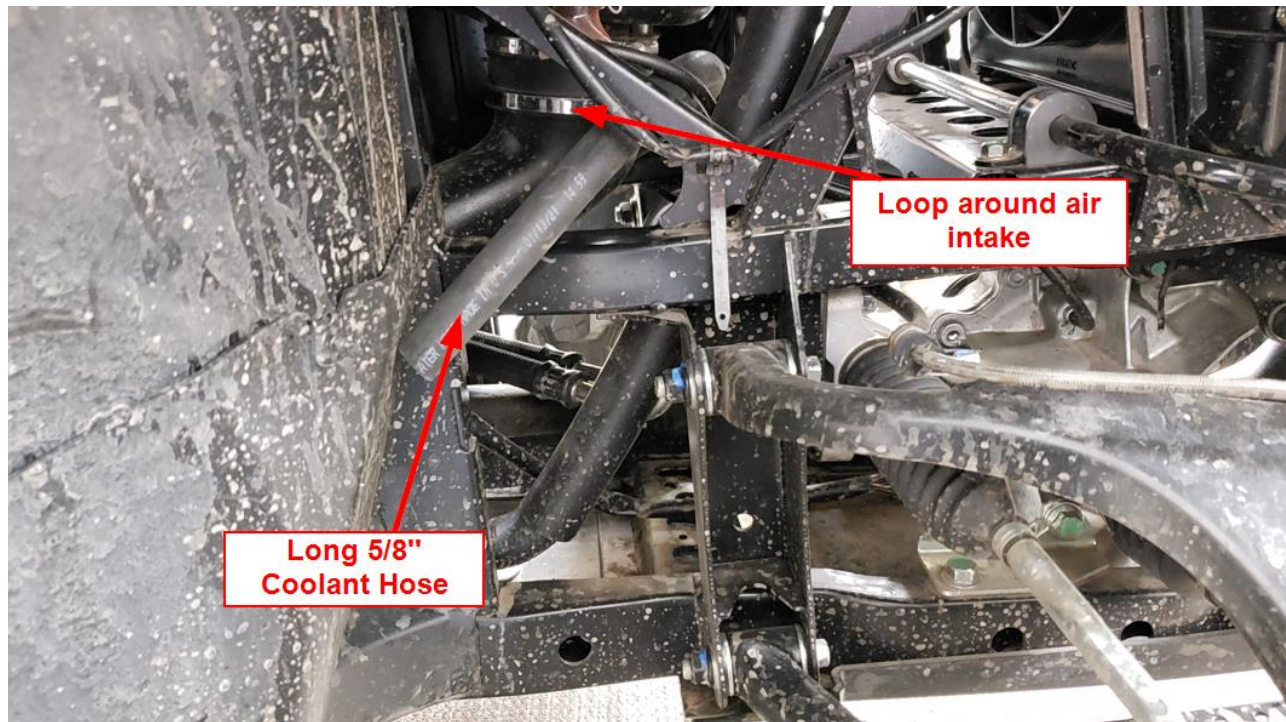
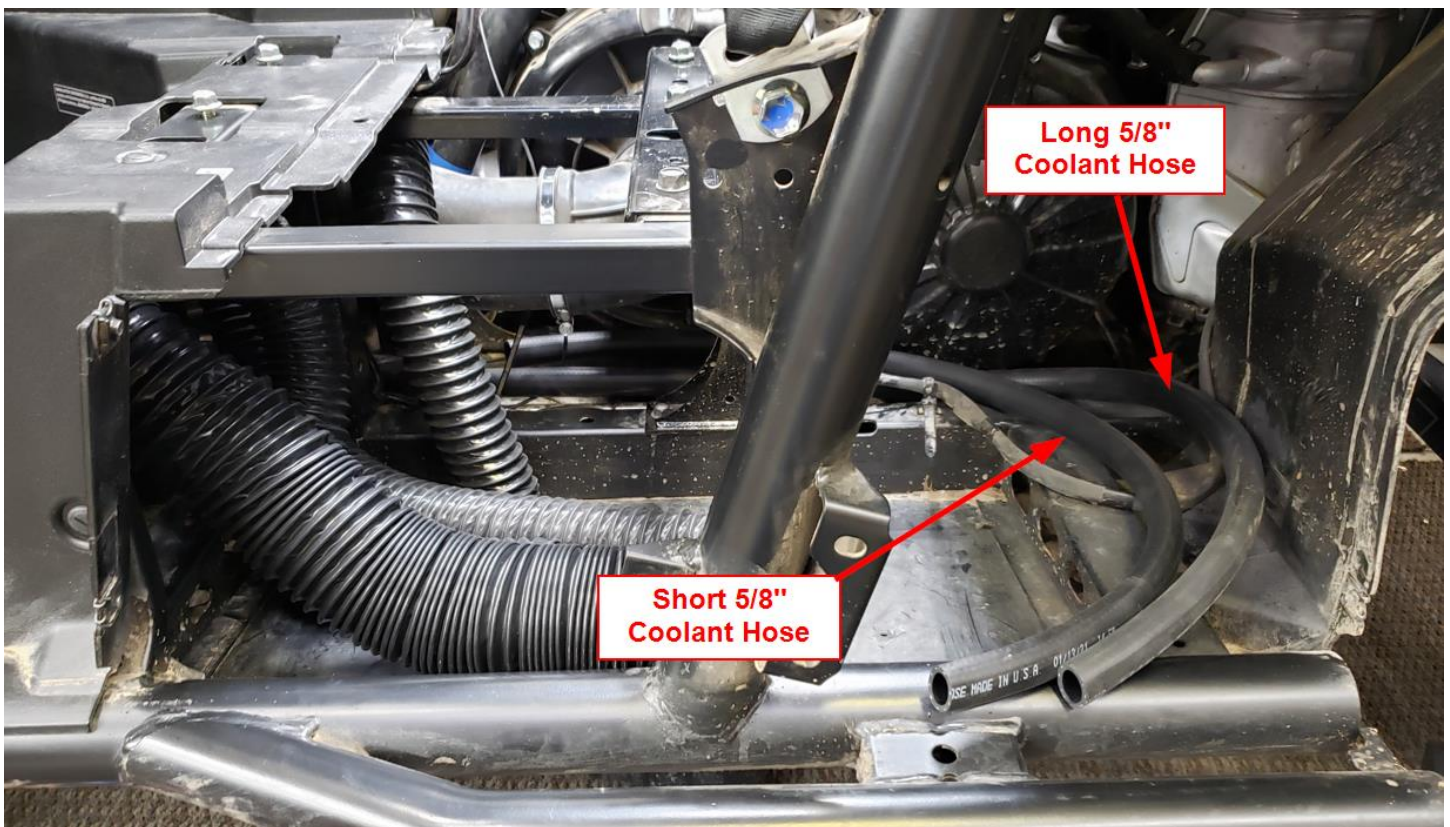

Figure 28
Figure 29
- a. Cut an 8' piece of the 5/8" coolant hose. Route the coolant hose to the passenger side front wheel well starting from the driver seat area. Loop the hose as shown in Figure 28. Route the remaining 5/8" coolant hose as shown in Figure 29.